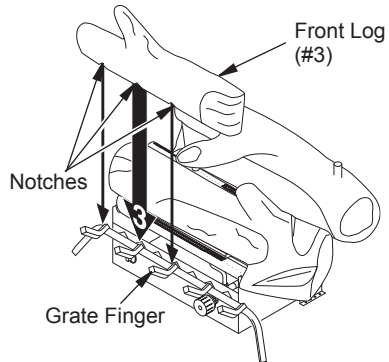

Figure 31 - Installing Front Log (#3)
3. Locate the notches in the bottom of the front log (#3). Place the front log on the grate fingers. Make sure the notches of the front log line up with the grate fingers (see Figure 31).